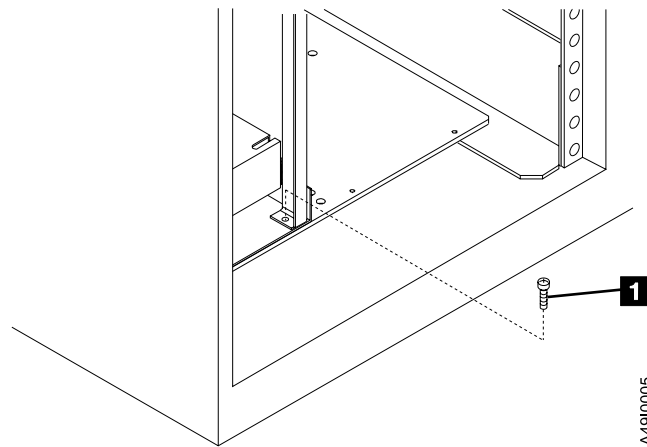

Figure 12. Library Front Frame Alignment
- ___ Step 20. Align holes in the bottom front corners of the library frame with threaded holes in base plate and secure in position with screws 1 (typical both front covers). See Figure 12.